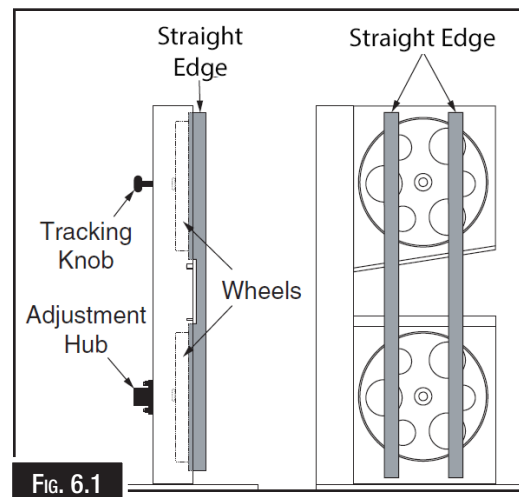

FIG. 6.1
3. Place the straight edges against both wheels in the positions shown in Fig. 6.1